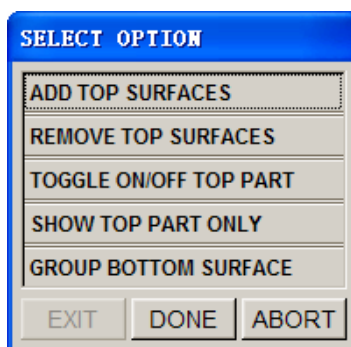

Figure 5.2.16 Group Options dialog box
2. After selecting entire surfaces, the program will group the top surface automatically. If some top surfaces are not selected, the user can click the ADD TOP SURFACES option to add top surfaces. Refer to the Figure 5.2.16.